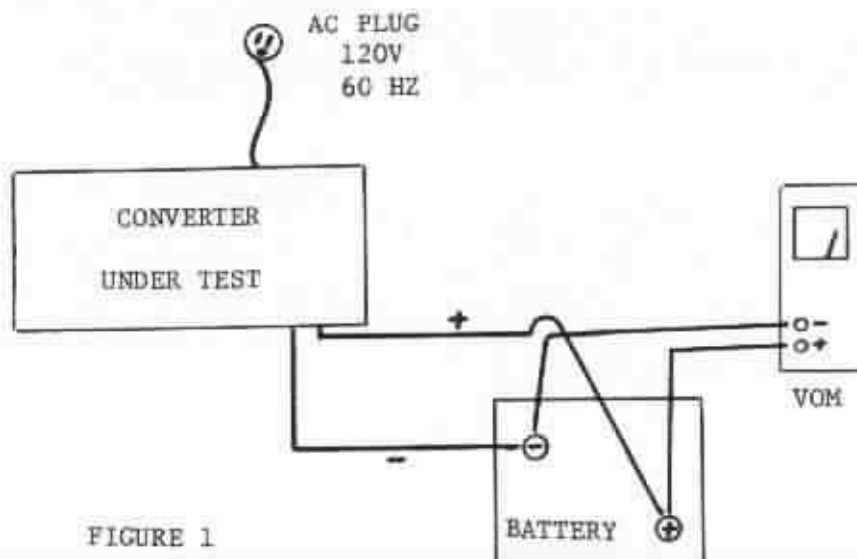

FIGURE 1
3. Connect the leads to a good, fully charged, battery and plug in the converter (Figure 1).